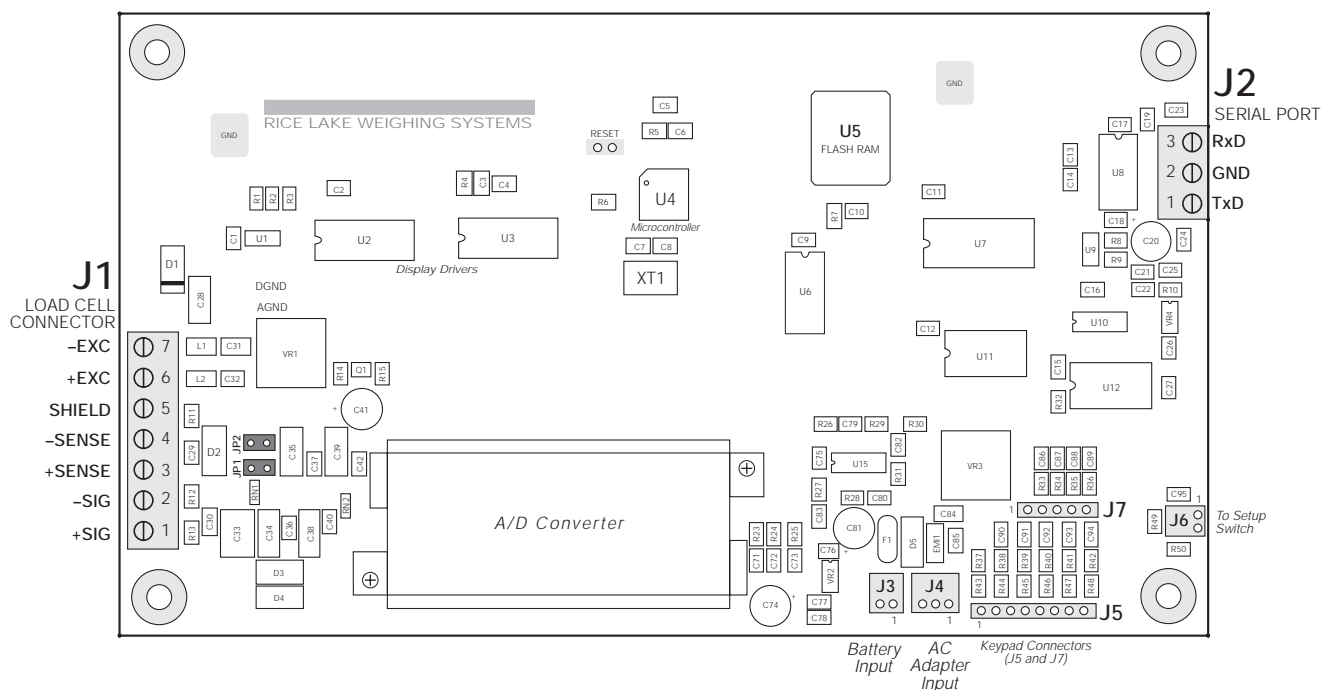

Figure 2-3. IQ plus 590-DC CPU Board
To attach cable from a load cell or junction box, remove connector J1 from the board. The connector plugs into a header on the board. Connect cable from the load cell or junction box through the load cell cable cord grip to connector J1 as shown in Table 2-1. If using 6-wire load cell cable (with sense wires), remove jumpers JP1 and JP2 before reinstalling connector J1 (see Figure 2-3 on page 7). For 4-wire installation, leave jumpers JP1 and JP2 on.
To attach serial communications cables, remove connector J2 from the board (see Figure 2-3 on page 7). Connect communications cable through cord grip to connector J2 as shown in Table 2-2.
2. Unplug all connections to the CPU board. See Figure 2-3 on page 7 for connector locations.